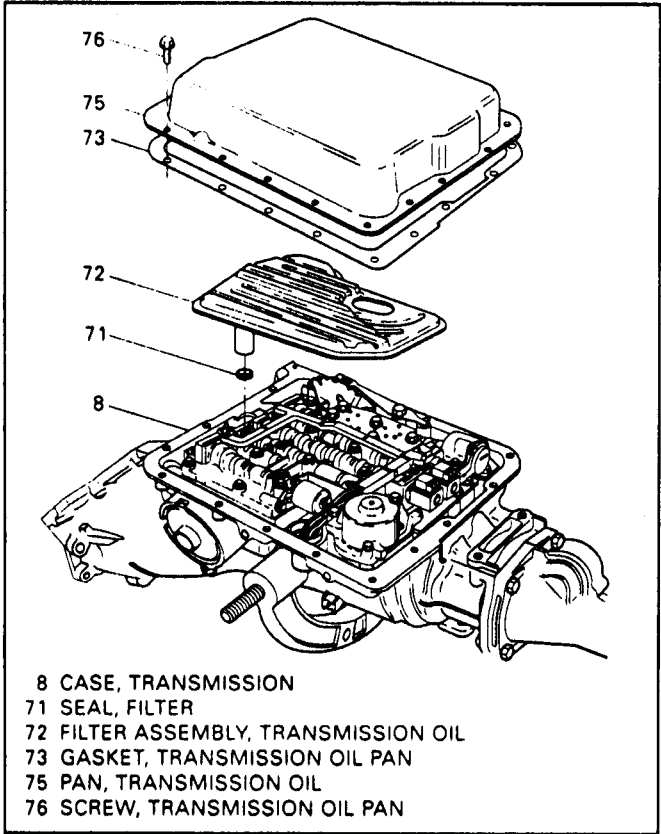

Figure 167
5. Install a new bottom pan gasket on case, and install the bottom pan (See Figure 167).
6. Install 16 bottom pan retaining bolts and torque them to 9 ft.lbs. (See Figure 167).